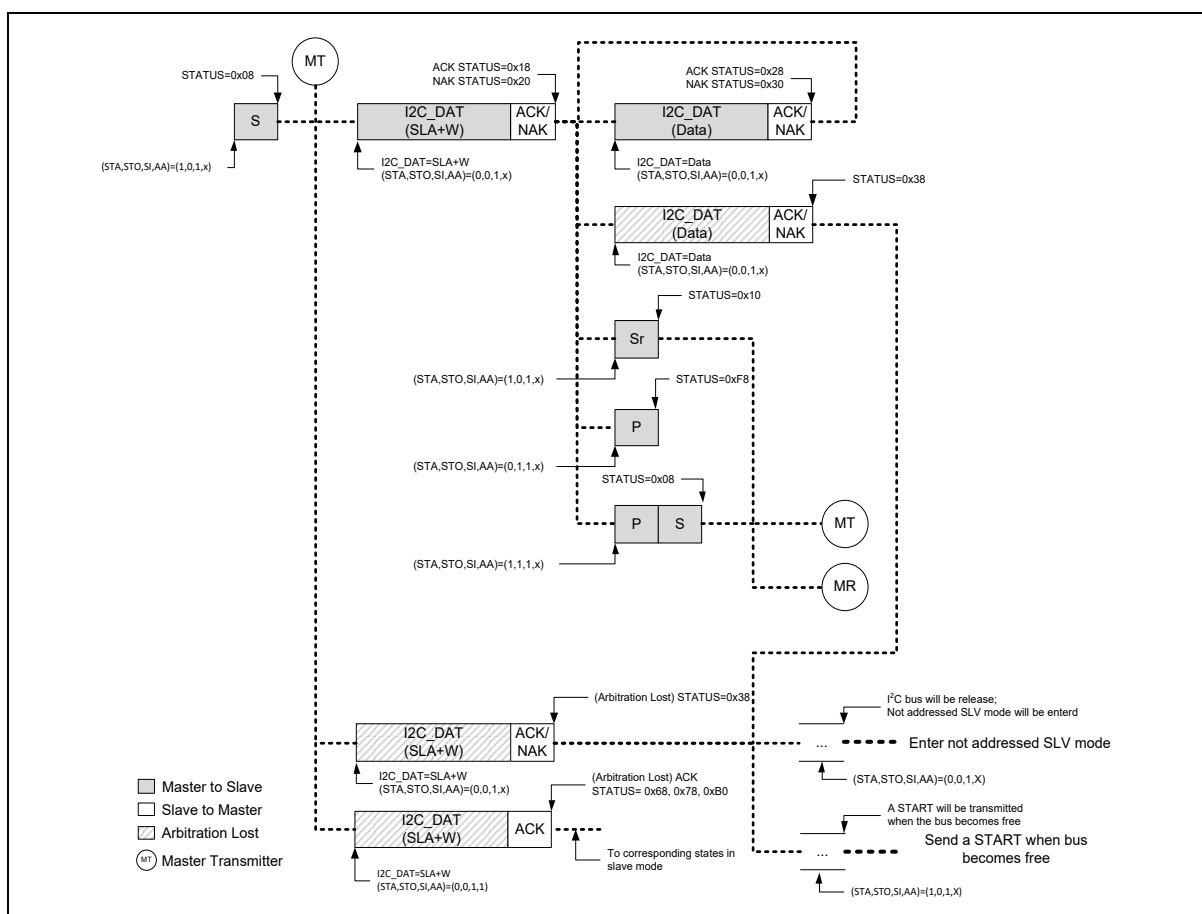
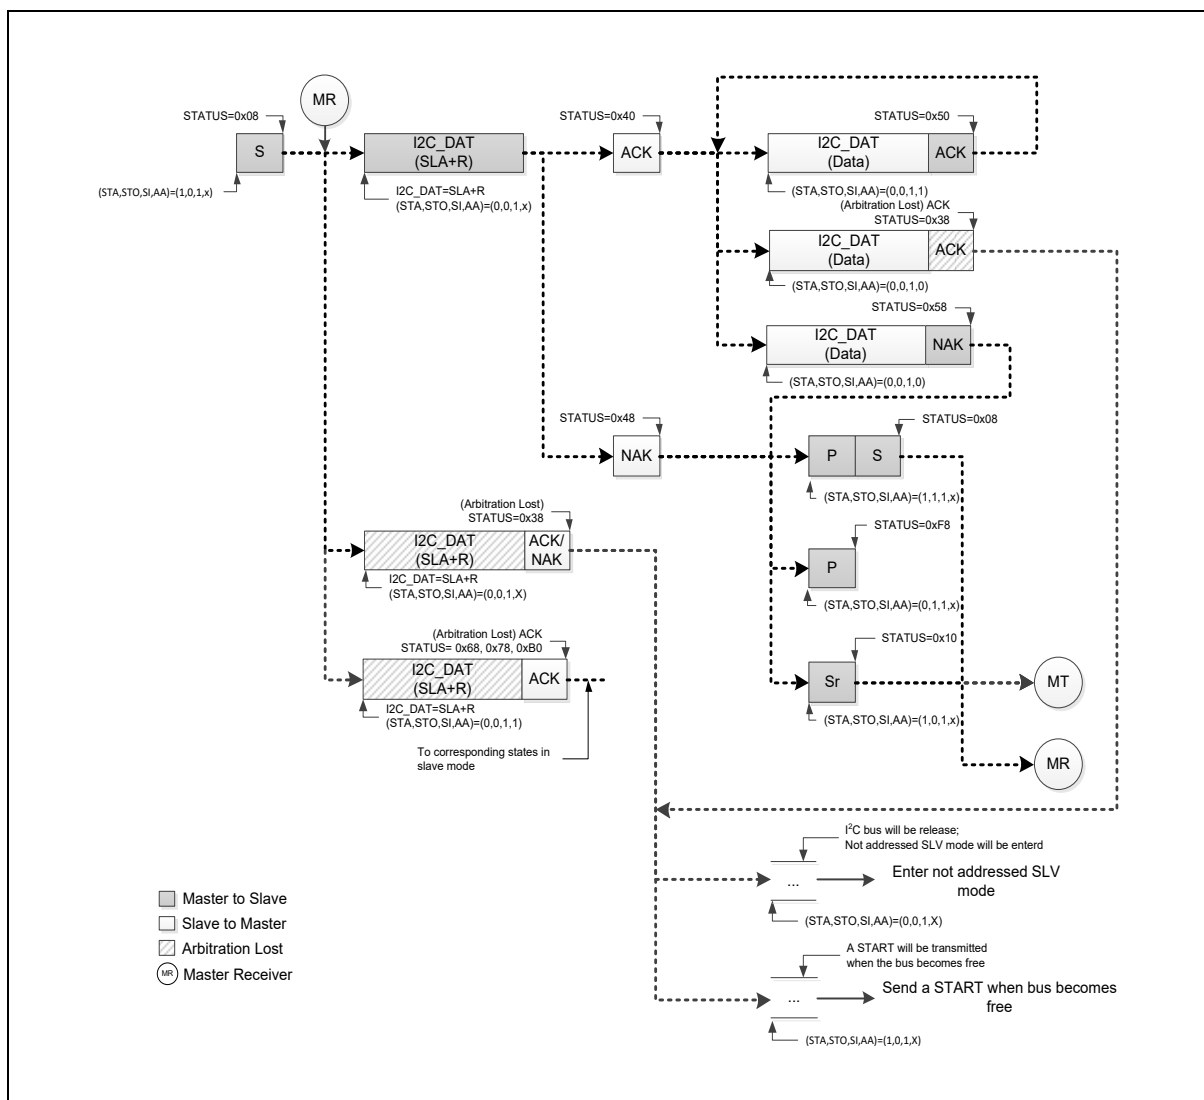

Figure 6.16-10 Master Transmitter Mode Control Flow
Figure 6.16-11 Master Receiver Mode Control Flow
In Figure 6.16-10 and Figure 6.16-11, all possible protocols for I²C master are shown. User needs to follow proper path of the flow to implement required I²C protocol.
In other words, user can send a START signal to bus and I²C will be in Master Transmitter (MT) mode (Figure 6.16-10) or Master receiver (MR) mode (Figure 6.16-11) after START signal has been sent